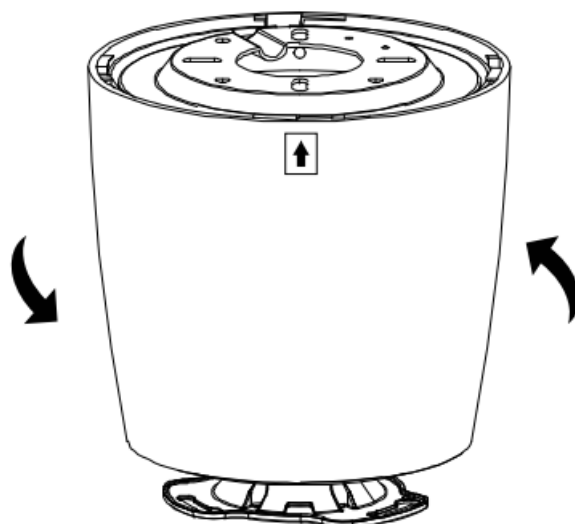

Fig. 8
- Finally, attach the motor housing to the hanging plate of the fan assembly and secure it by anticlockwise. (Fig.8)